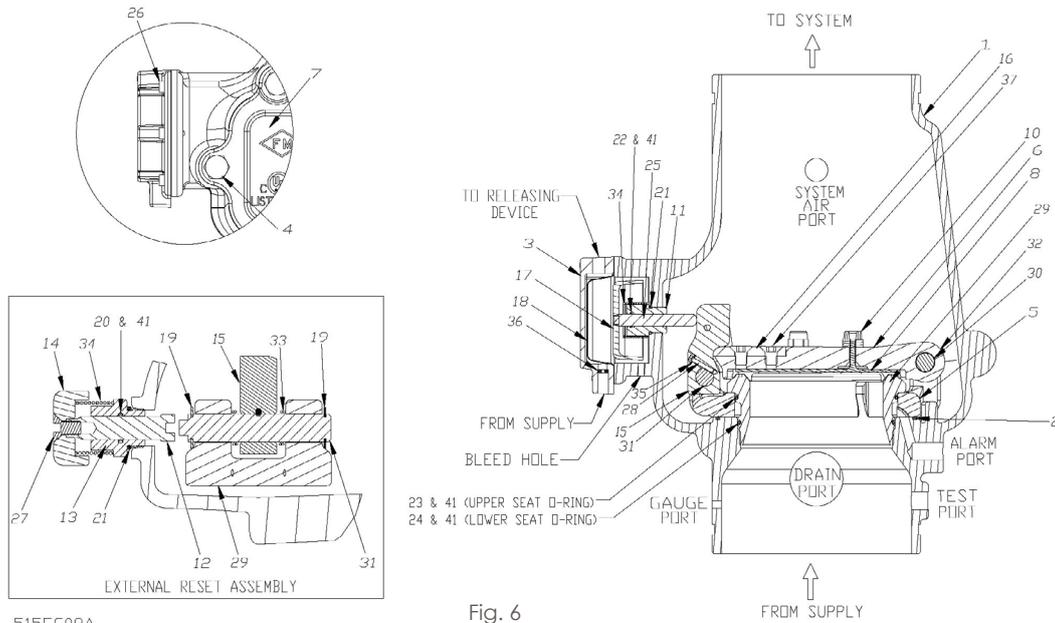

Fig. 6
- With the Model B Manual Emergency Station, valve D (Fig. 7), open, push in and rotate the Deluge Valve's external reset knob (#14, Fig. 6) clockwise until you hear a distinct clicking noise, indicating that the clapper has closed. Note: The reset knob can be rotated only when pressure in the pushrod chamber is vented to atmospheric conditions (0 psig).